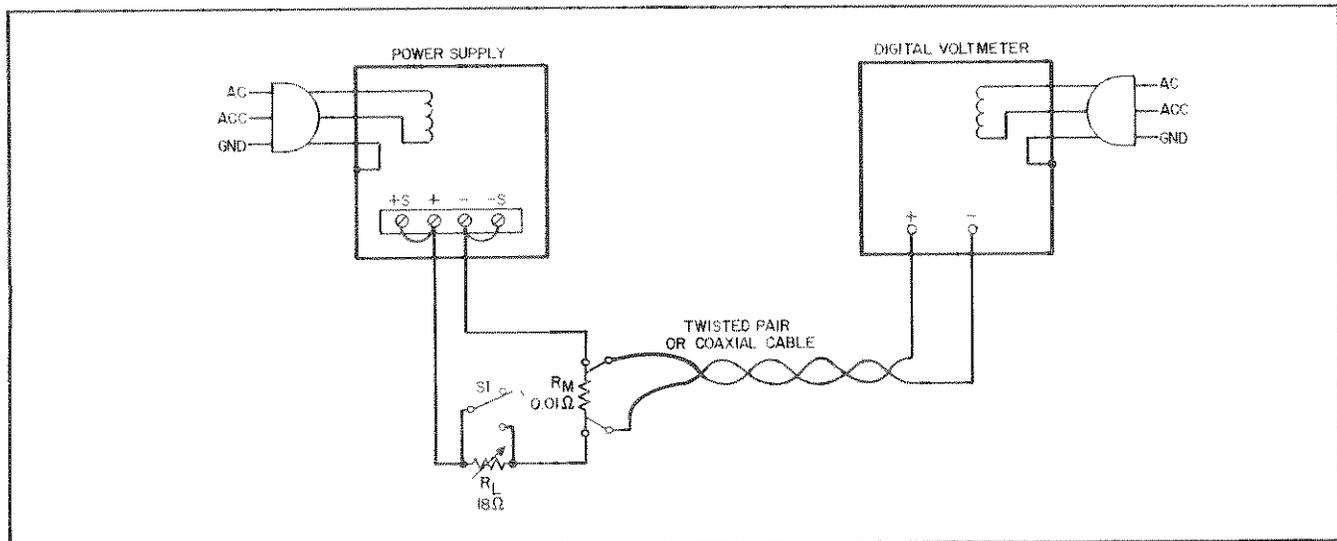

Figure 5-7. Constant-Current Test Setup
- Connect test setup shown in Figure 5-7. Set  $R_L$  to minimum resistance initially.
- Connect test setup shown in Figure 5-7.